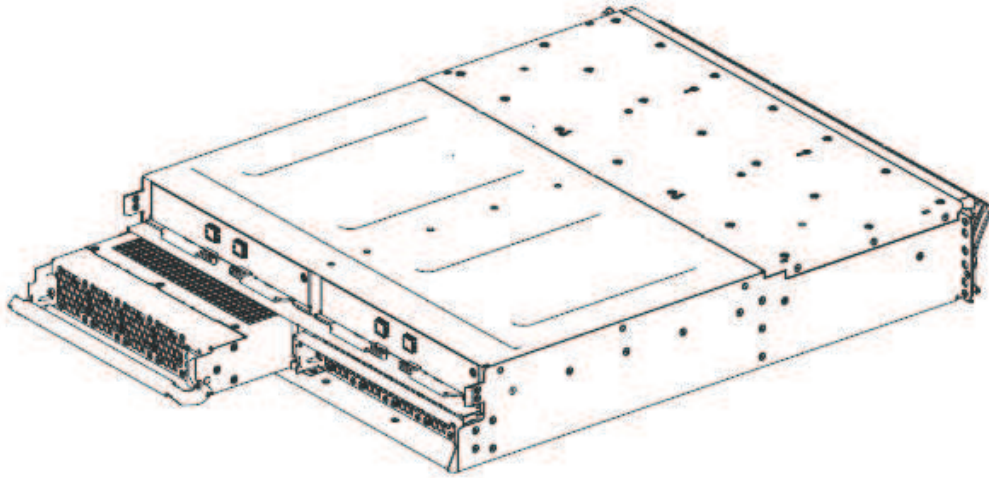

Figure 89. Removing the power supply unit from the left side of the expansion enclosure
5. Using the handle, gently slide the power supply out of the enclosure, as shown in Figure 89.